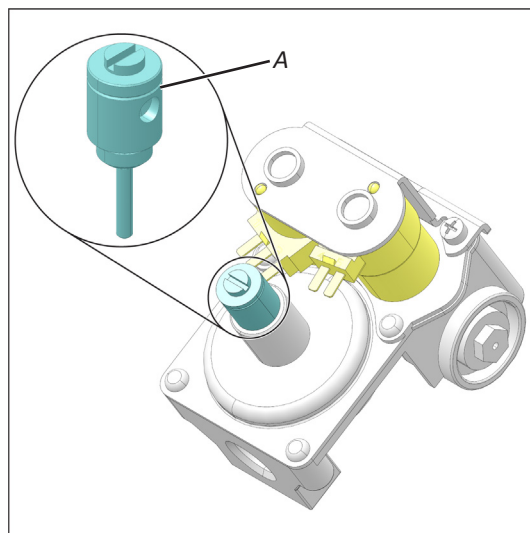
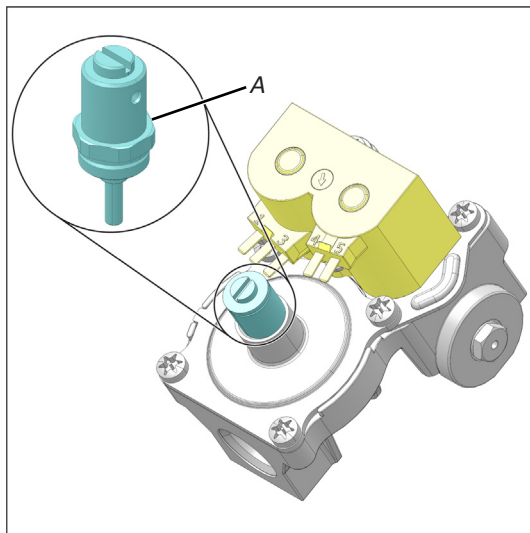

Figure 4
Figure 5
16. Install the new blocking pin Style "A" finger tight. Do not tighten more than 1/8 turn to seal it. See Figure 4.
19. Install the new blocking pin Style "B" finger tight. Do not tighten more than 1/8 turn to seal it. See Figure 5.
- Check that the regulator vent cap has been replaced by blocking pin Style “A” as in Figure 4 or blocking pin Style “B” as in Figure 5 for valves.